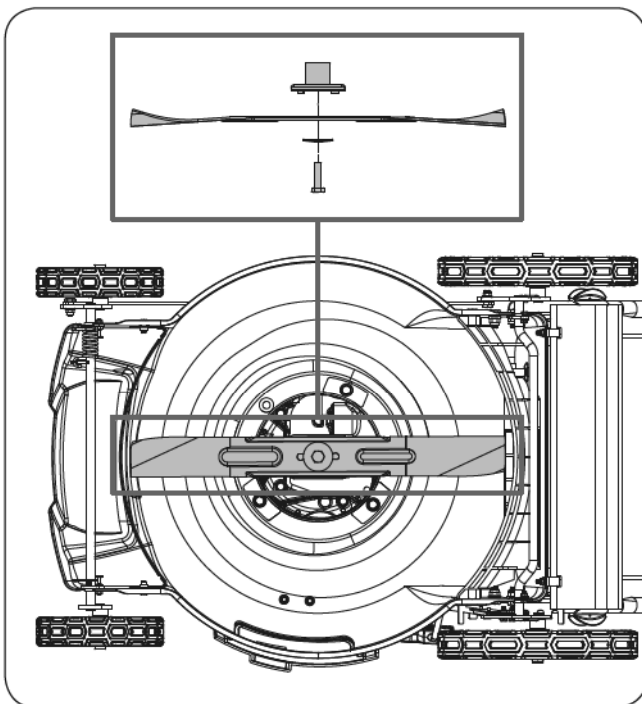

Figure 17
4. Remove the blade, saving all mounting hardware. Examine the blade support and blade bolt to see if there is damage. Examine the motor shaft to make sure that it is not bent. (See Figure 17)